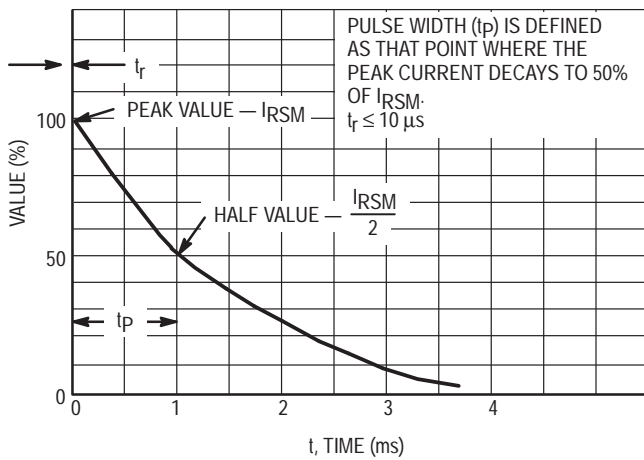

Figure 5. Pulse Waveform
(1) Nonrepetitive current pulse per Figure 5 and derate above  $T_A = 25^\circ\text{C}$  per Figure 6.
(2) FR-5 = 1.0 x 0.75 x 0.62 in.
(3) Alumina = 0.4 x 0.3 x 0.024 in., 99.5% alumina
† Surge current waveform per Figure 5 and derate per Figure 6.